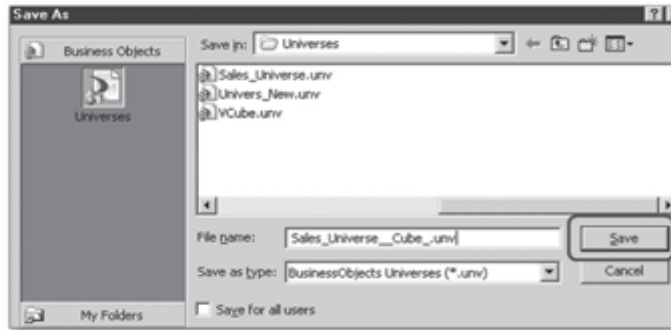

Figure 13.15 Save the Universe
4. **Save the universe:** To save the universe, go to FILE • SAVE AS. Enter the universe name, and click the Save button (Figure 13.15).